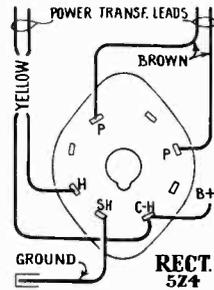

Figure 2
- (2) The metal rectifier socket wiring for tube No. 14 is shown by figure 2.